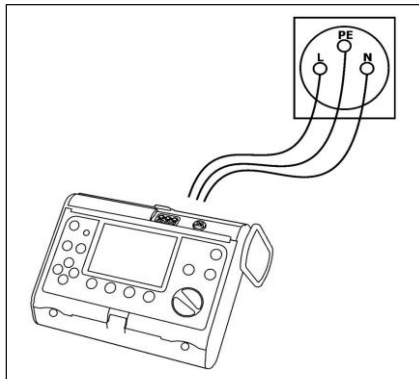

Fig. 6. Connection of the meter
- connect the meter to the power network socket of the board using leads, in accordance with Figure 6,